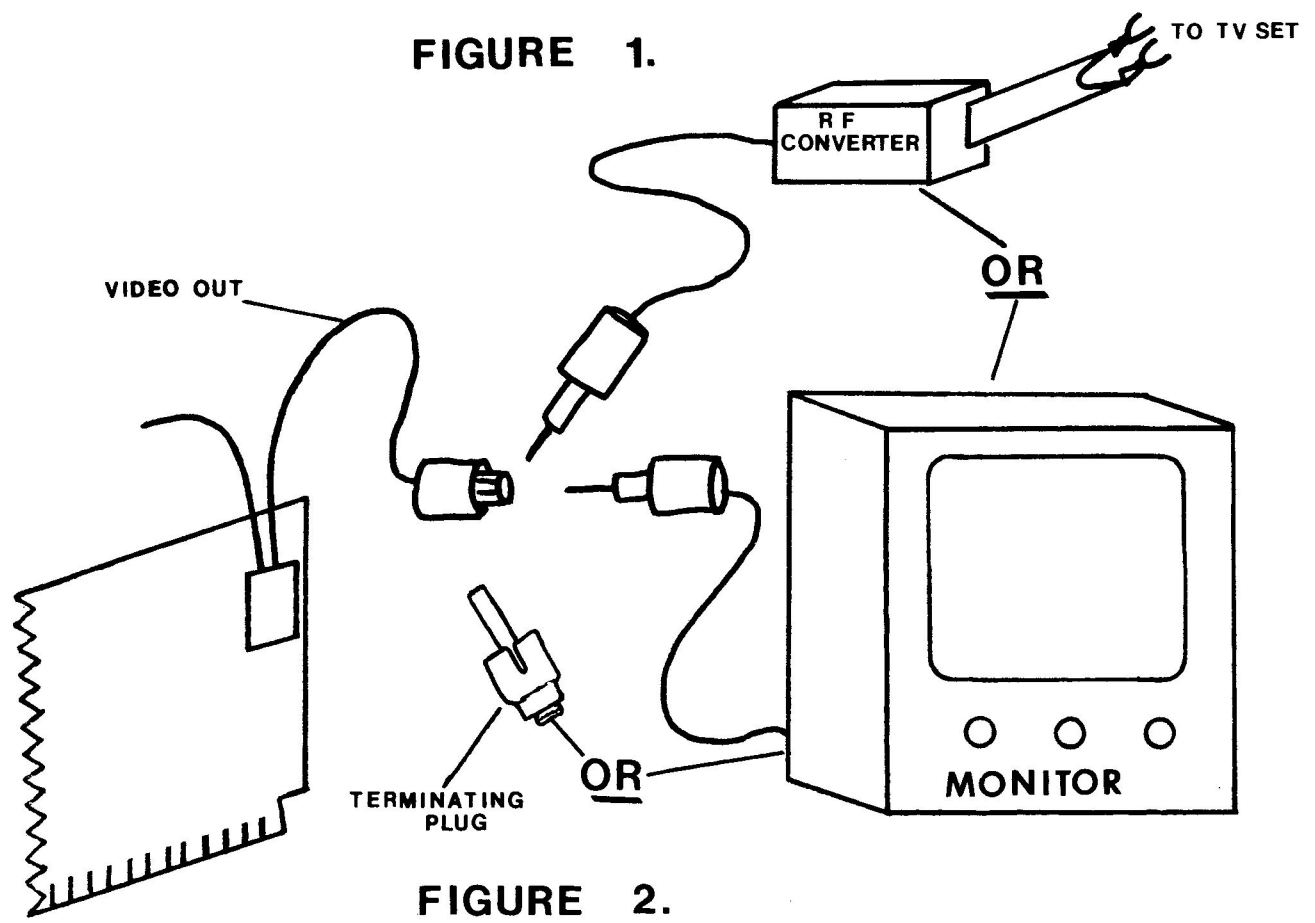

FIGURE 2.
A "monitor" is a TV set or video monitor which will enable you to see the picture as it comes from the camera. You already have one monitor on your Apple, which is the screen on which your Apple displays its text and graphics. That is also the screen on which the digitized pictures will be displayed. For focusing and composing pictures, it is recommended that you have another monitor hooked up to the Video Out jack of the DS-65 (See fig. 2).
- 4 - Something's hooked up wrong. See fig. 2.